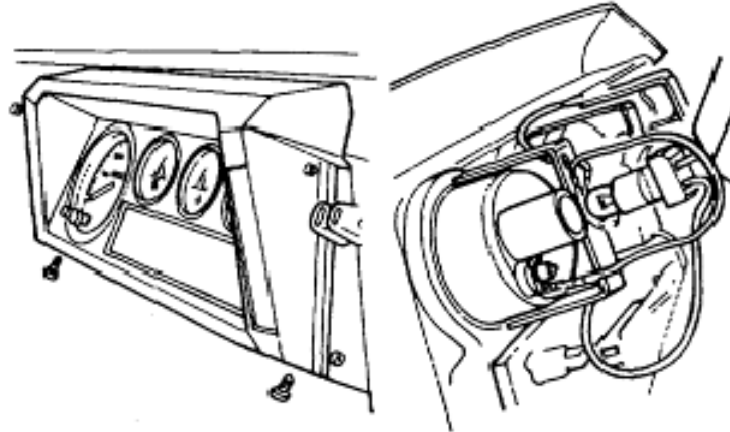

Figure 162 Instrument Panel Light Bulb Replacement
- b. Remove the four screws securing the instrument panel (Figure 162).